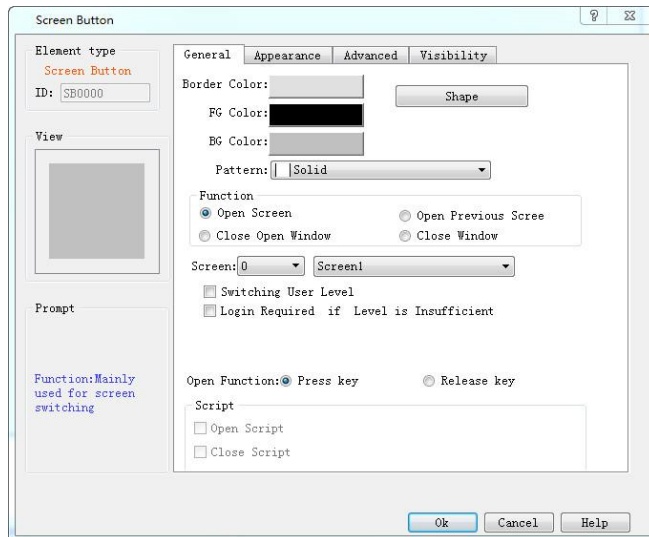

Figure 4-80 Screen Button Dialog Box
- Click the icon button  on the toolbar to bring up the dialog box , as shown in Figure 4-80.